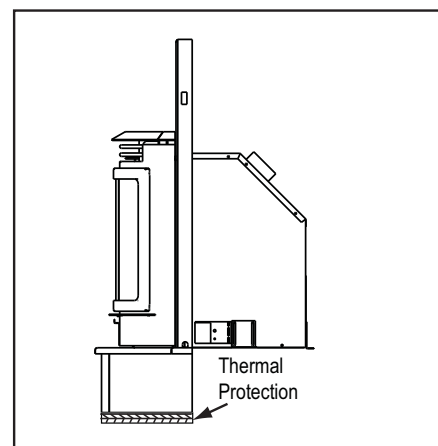

Figure 22.4
10. Thermal protection of 1-1/2 inches (38mm), "k" value of 0.49 and R value of 3.06 under the zero-clearance trim support. **Figure 22.4.**